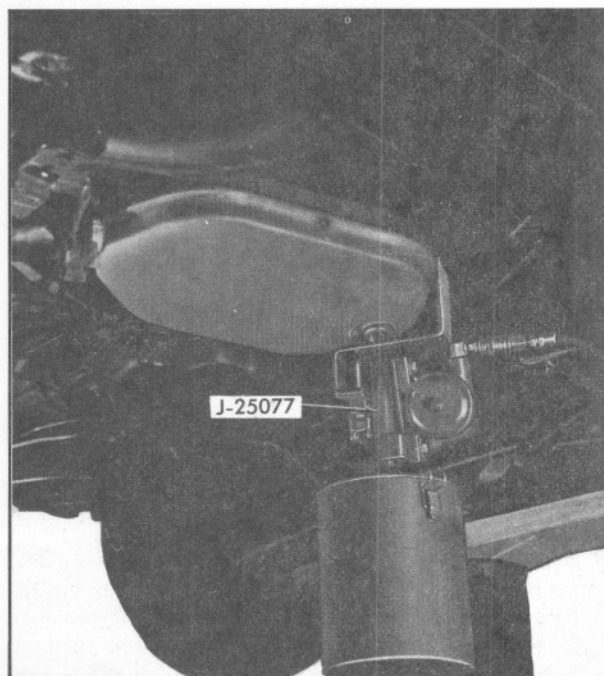

Fig. 8-8 Removing Catalyst
5. Install empty catalyst container to converter, Fig. 8-8.